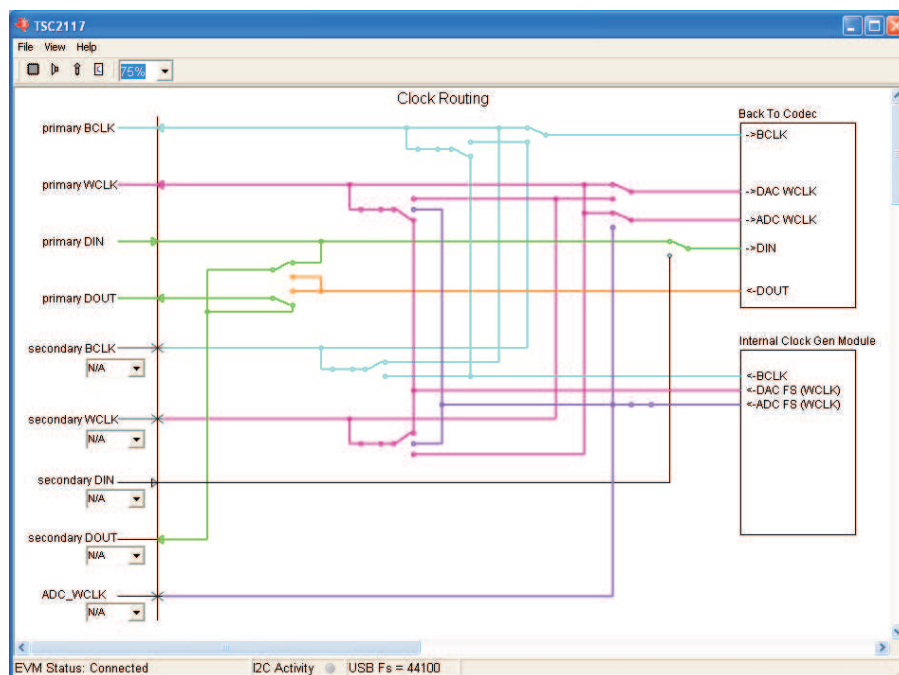

Figure 6. Clock and Digital Signal Routing
- To trace the routing of a specific signal, follow its color. The example in Figure 6 shows that the BCLK signal from the internal clock generation module is routed to the primary I2C™ BCLK pin (which is configured as an output), to the secondary I2S BCLK signal (which is not connected to a pin) and to the BCLK input of the codec (ADC and DAC within the TSC2117).
To open the digital configuration dialog, navigate to the clock and digital signal routing diagram (see Figure 6) and click on the “Internal Clock Gen Module” active object.